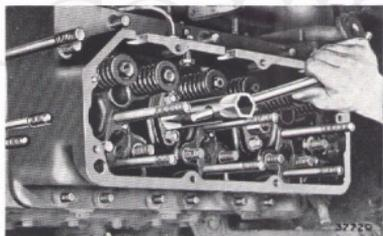

Fig. 27. Tightening lifting nuts.
5. Remove all cylinder head nuts and raise the heads by unscrewing the special lifting nuts (see Fig. 27). Two lifting nuts are provided for each of the heads, to prevent damage to the gaskets when lifting. Both nuts should be screwed evenly as far as they will go, then lift the